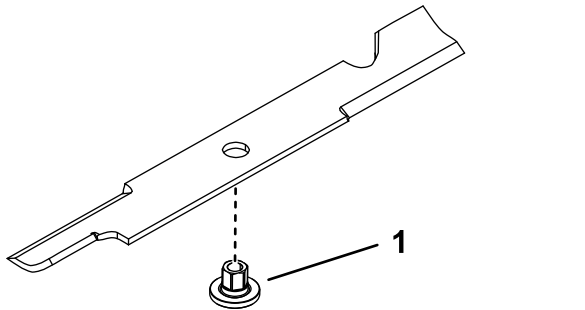

Figure 108
1. Install the bushing through the blade with the bushing flange on the bottom (grass) side of the blade (Figure 108).